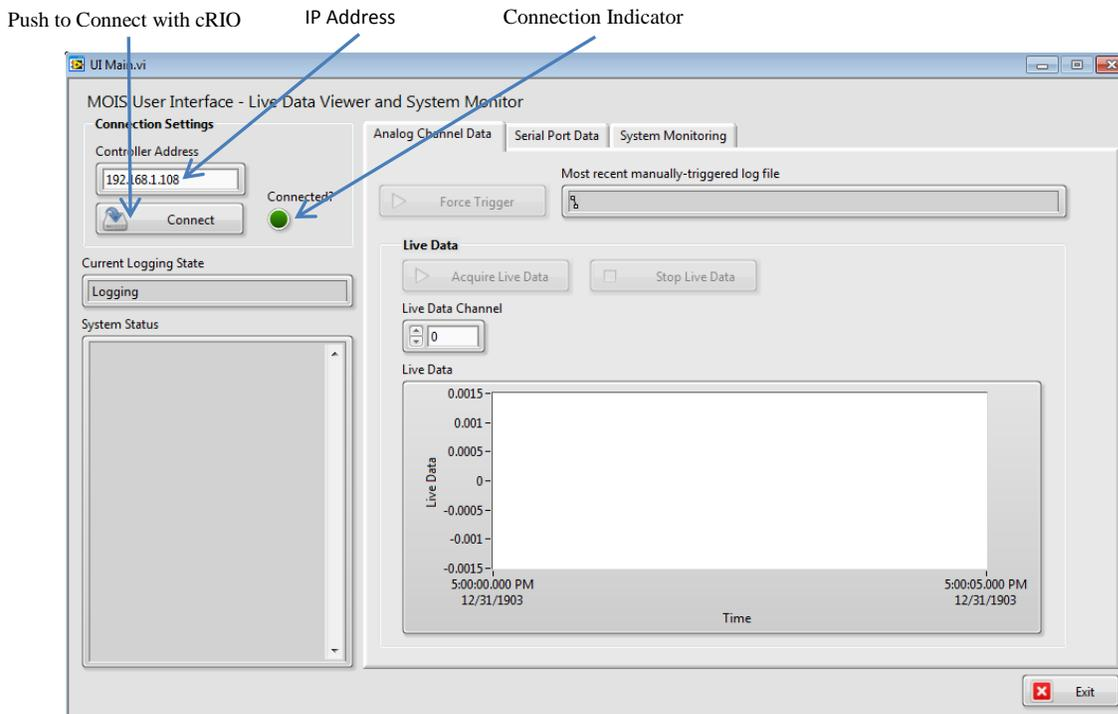

Figure 5. MOIS User Interface where the UI is not connected to the cRIO hardware. When connected the connection indicator light turns lights up to bright green.
On the HMI, go to the UI and click the “connect” button which is located in the upper left of the window in the Connection Settings box under the controller address, Figure 5. When the UI successfully connects to MOIS, the connection indicator to the right will light up and turn bright green. If the UI fails to connect, an error message should appear in the System Status box directly below the connection settings. Check that the correct IP address has been entered and that the host PC has an Ethernet connection to the cRIO in MOIS. If there is still no connection try to ping the IP address of the cRIO to confirm the cRIO is running.
1. Execute MOIS UI.exe and set the controller IP address, Figure 5. The controller IP address is located in the upper left of the window in the Connection Settings box and should be 192.168.1.xxx, where xxx is a number and specific to your DAS. 192.168.1.108 is the address of the cRIO used in development of the system. Verify that the controller address is the same as the label on the MOIS enclosure or in the NetworkAddresses.txt file on the USB stick.